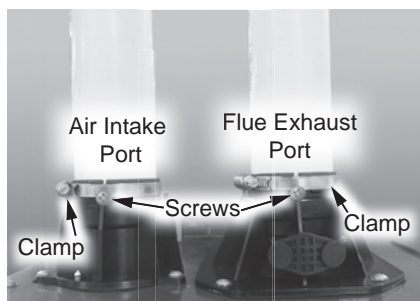

Figure 63 - Flue exhaust port and intake air port location
**2** Locate the flue exhaust port and intake air port. See Figure 63.
**3** Remove the two (2) screws securing the intake air and exhaust piping to the ports. Place the screws aside in a safe place for reinstallation. See Figure 63.
**9** Reinstall the two (2) screws removed in **Step 3**. See Figure 63.